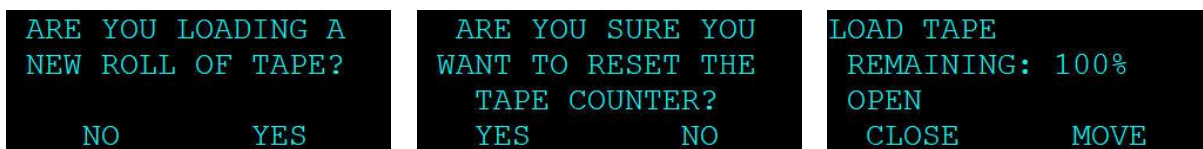

Figure 3-4 BC 1060 New Tape Loading Sequence Screens
5. Select YES to ARE YOU LOADING A NEW ROLL OF TAPE. The sequence will advance to the tape counter reset screen (see Figure 3-4).
6. Select YES to reset the tape counter to 100% TAPE REMAINING and advance to the LOAD TAPE screen (see Figure 3-4).